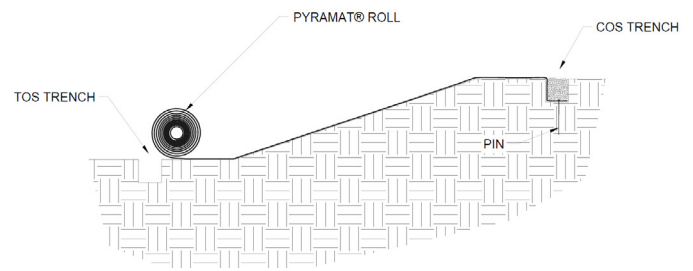

Figure 6: Placement of PROPER Pyramat across slope
- Unroll the material roll on the slope surface in the area to be armored (Figure 6). Ensure that **PROPEX** Pyramat has intimate contact with the ground and all irregular surfaces beneath it are removed.